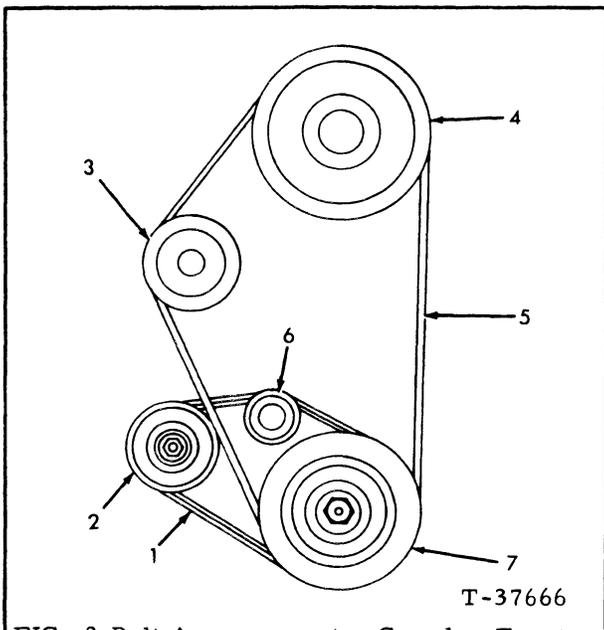
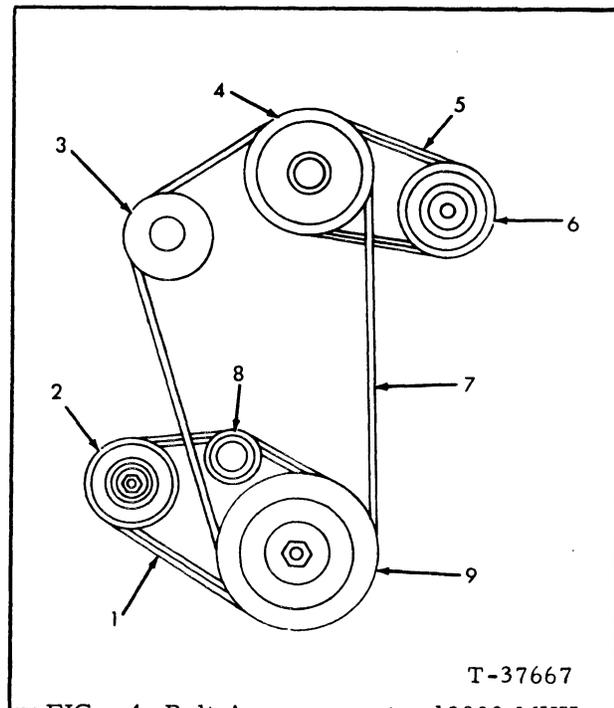

FIG. 3 Belt Arrangement - Crawler Tractors
FIG. 4 Belt Arrangement - 19000 MKII
3.2.2 BELT ARRANGEMENT - CRAWLER TRACTORS (Fig. 3), 19000 MKII ENGINES (Fig. 4)